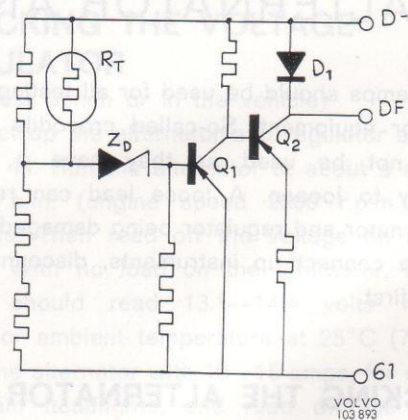

Fig. 40. Inner wiring of transistor regulator
When the ignition key switches on the circuit, current flows through the charging warning lamp to terminal D+ (61) on the alternator. From there the current is conducted to the regulator. In the regulator the current goes via the output transistor Q2, Fig. 40, to the DF-terminal on the alternator. From the DF-terminal the current is taken across two brushes and slip rings, through the field winding in the rotor to earth.